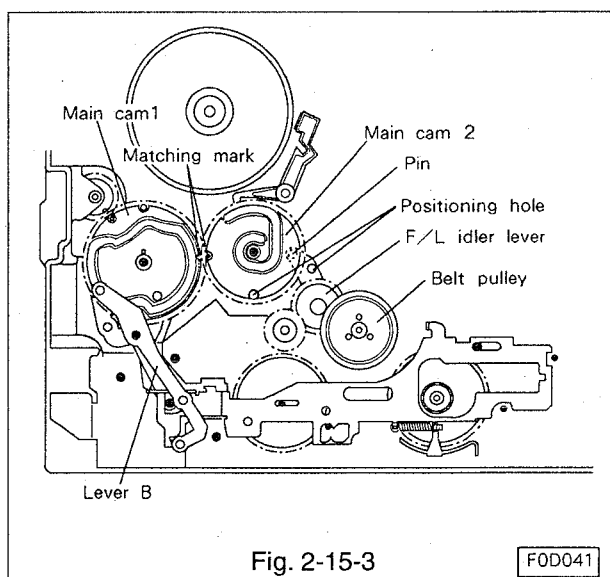

Fig. 2-15-3
- Assemble lever B to the shaft so that the pin of the lever shown in Fig. 2-15-3 enters the groove of the main cam 1. Secure the lever with a grip ring.
- Line the positioning hole of the F/L idler lever with that of the main plate. (Refer to Fig. 2-15-3.)
- Line the matching mark of main cam 2 with that of main cam 1, and also the positioning hole of the main cam 2, and assemble the main cam 2 to the shaft. (Refer to Fig. 2-15-3.)